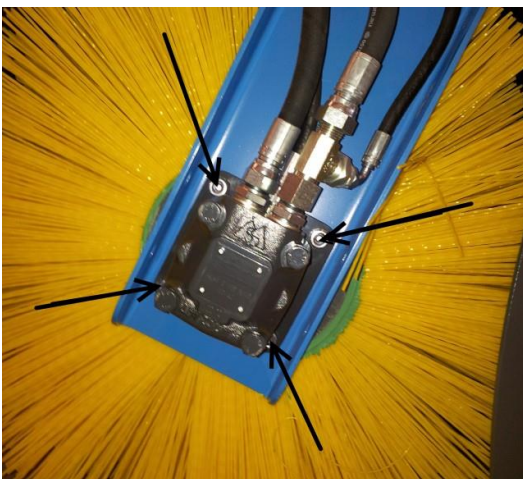

Figure 11
3. Detach the four fastening bolts on the motor (Figure 11).
3. Detach (four bolts/motor) (Figure 11).